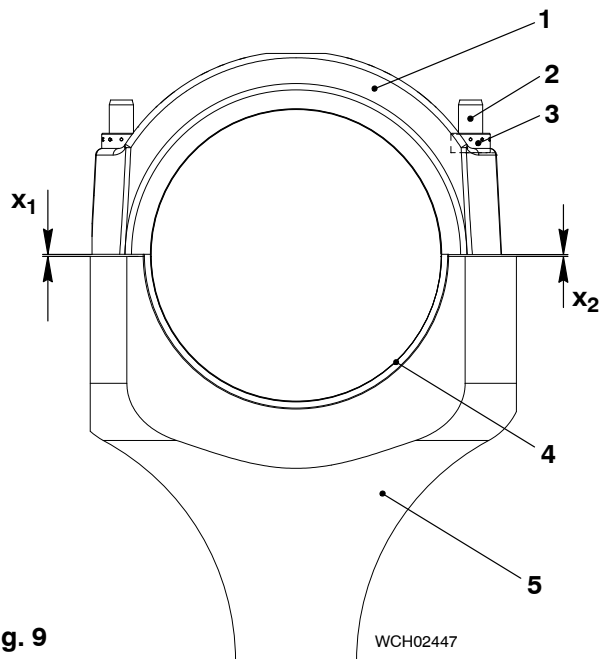

Fig. 9
- 20) Put the round nuts (3, Fig. 9) on the elastic studs (2).
- 21) Use the round bar (94005) to tighten equally the round nuts (3).
- 22) Measure the distances (X1, X2) between the edges of the bearing shells and the connecting rod (5).